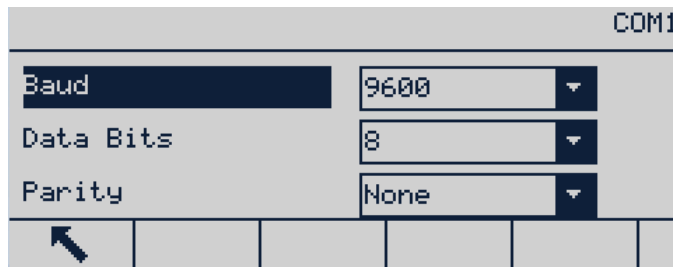

Figure B-26: COM1 Configuration Screen
- Access **Communication | COM1** and check that the GT800 printer communication parameters are as shown in Figure B-26.